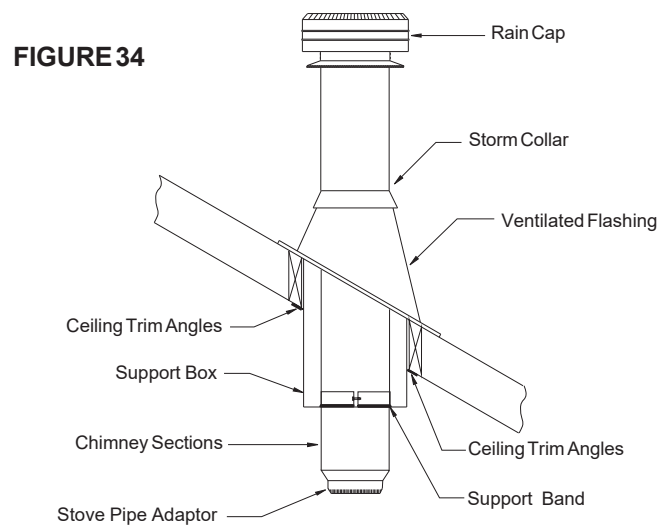

FIGURE 34
4. Lower the chimney length down through the opening in the bottom of the support so that the Support Band makes contact with the bottom of the Support Box. (See Figure 34).